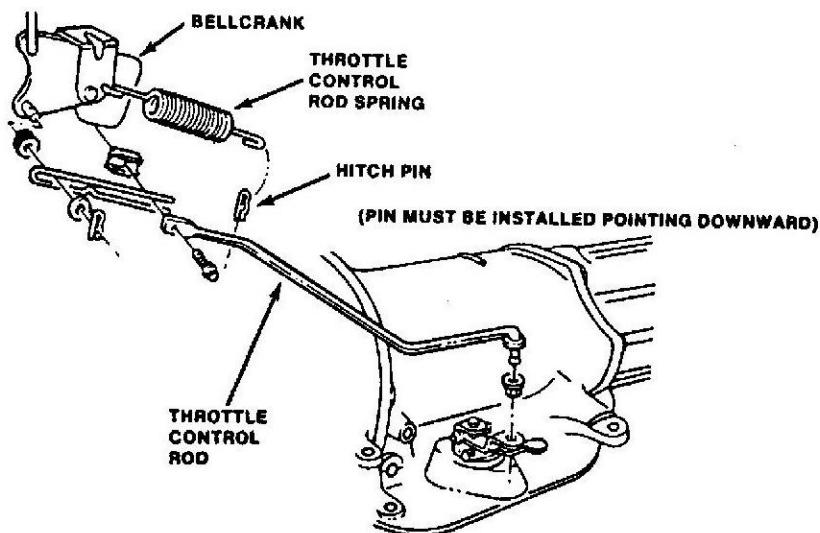

Figure 1 - Throttle Control Rod Spring Position
- (1) Open hood and inspect throttle control rod spring position.
- (2) If spring is attached to bellcrank and to hitch pin, as shown in Figure 1, spring is correctly installed. Proceed to Step (4).
- (3) If spring is incorrectly attached at either the bellcrank or the hitch pin, correct, as shown in Figure 1, and check throttle linkage operation.
- (4) Place yellow paint mark on bellcrank to indicate completion of campaign inspection/repair procedure.
- (5) Close hood and return vehicle to owner.